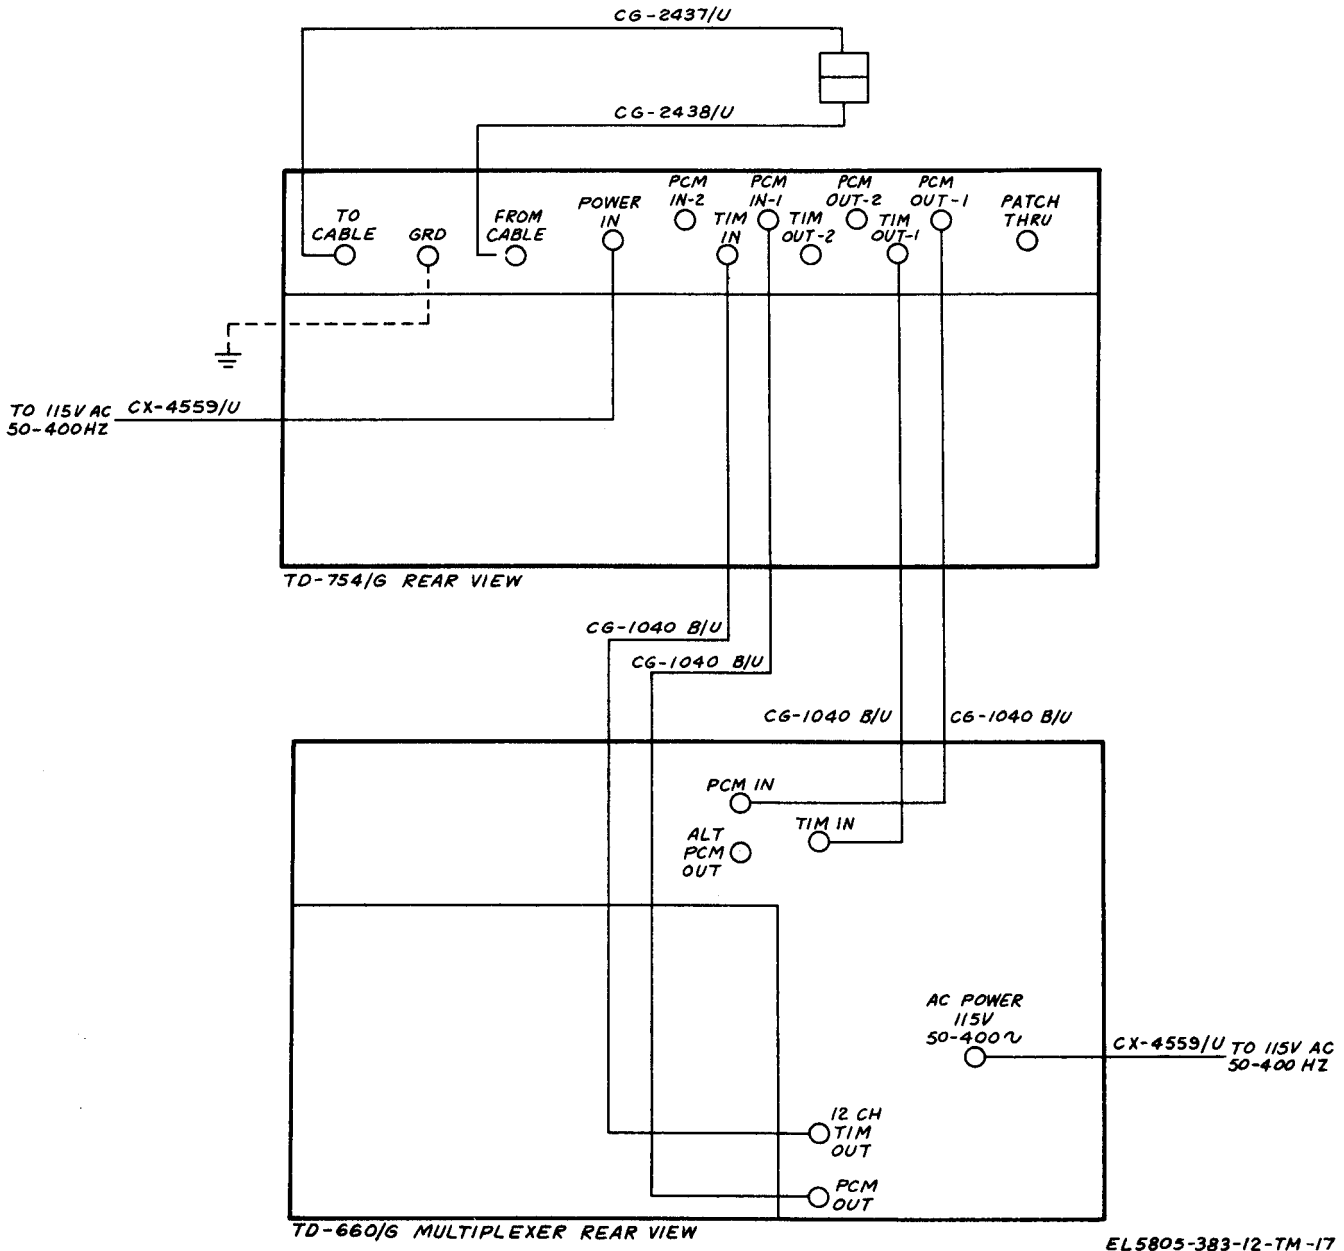

Figure 4-1. Loopback test setup, interunit cable diagram.
- (1) On TD-660/G, operate POWER switch to OFF.
- (2) On TD-754/G, operate PWR switch to OFF.
- (3) Connect equipment as shown on figure 4-1.
- (4) On TD-754/G, operate CABLE MILES switch on panel 12A4 to 1/2.
(5) On TD-754/G, operate CABLE MILES switch on panel 12A5 to 1/2.
(6) On TD-754/G, operate switches to following positions: